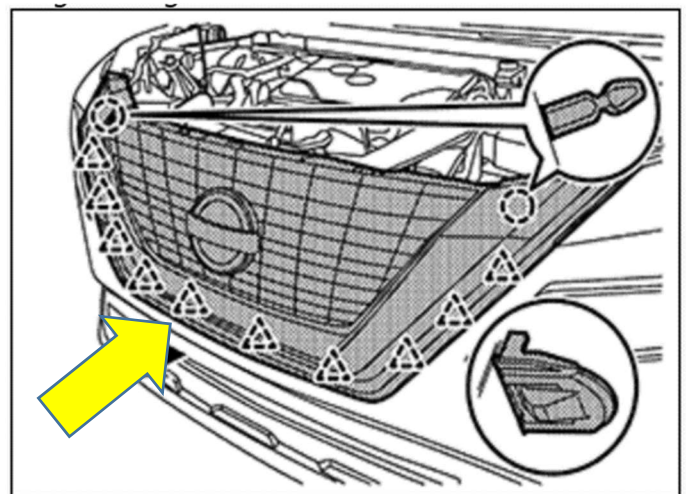

Figure 23
23. Align front grille fixing clips and pawls from backside while pushing the front of grille towards vehicle back. (Figure 23)